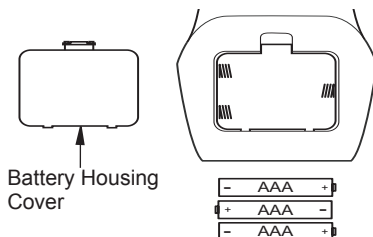

Figure 20 - Battery Install Hand-Held Remote Control
1. Remove battery housing cover from back of hand-held remote (see Figure 20).